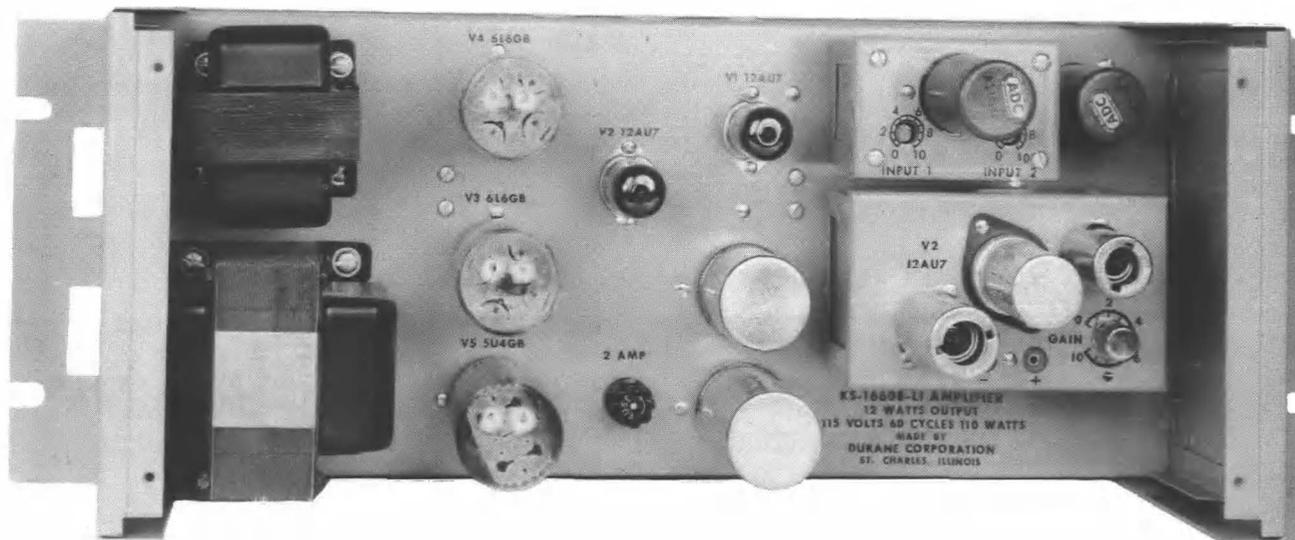

Fig. 2 – Rear View with Cover Removed and Plug-In Units Assembled
1.06 Fig. 2 shows a rear view photograph of the amplifier with the plug-in units assembled. Two KS-16611, L1 Transformers are shown in the upper right hand corner of the photograph. One is shown mounted in the mixer unit. The plug-in units are not included with the amplifier and must be ordered separately.